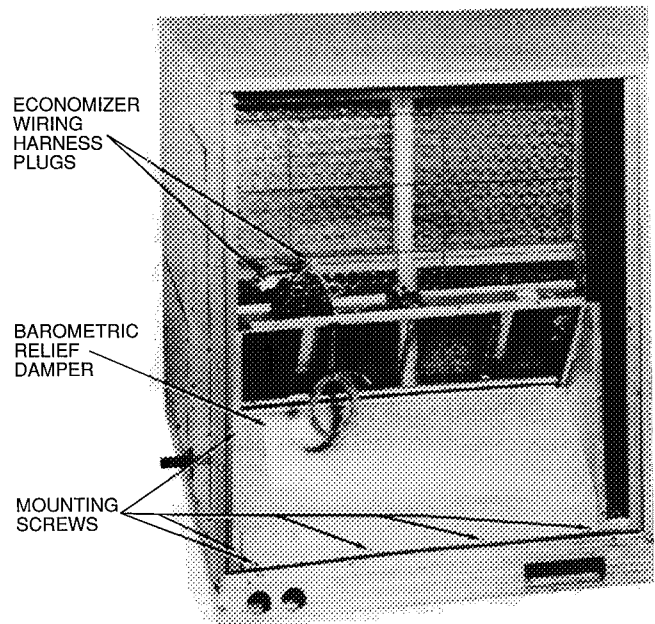

Fig. 20 – Economizer Installed in Unit
6. Remove screws securing barometric relief damper, if desired. See Fig. 20 and 21.
8. Insert economizer plug from the wiring harness (supplied with the unit) into the wiring harness plug (supplied with the economizer). See Fig. 20 and 21.